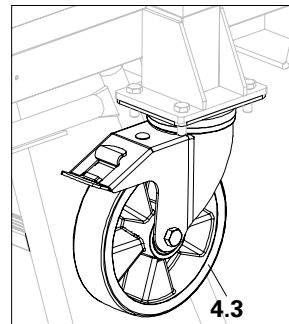
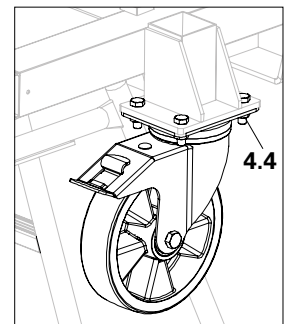

Fig. A1.02b
Fig. A1.02c
3. Attach the castor wheel (4.3) (art. no.: 111690) to the bolts (4.2) and tighten it with the four numbers of M10 nut (4.4) (art. no.: 710234). (Fig. A1.02b + Fig. A1.02c)